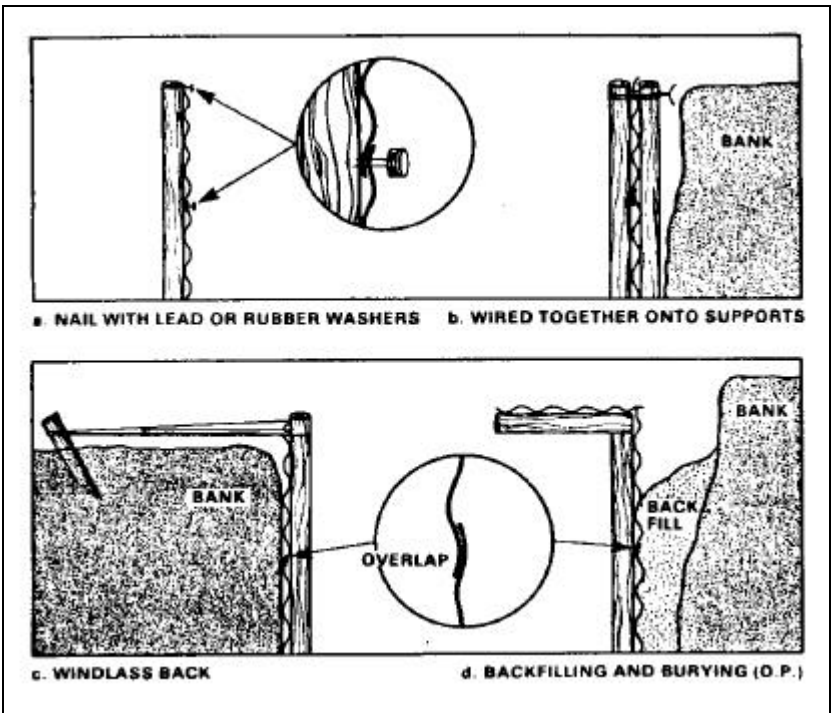

Fig 9-3-6 Methods of Fastening Corrugated Iron
8. **Fastening CGI.** CGI can be fastened in several ways (Fig 9-3-6):